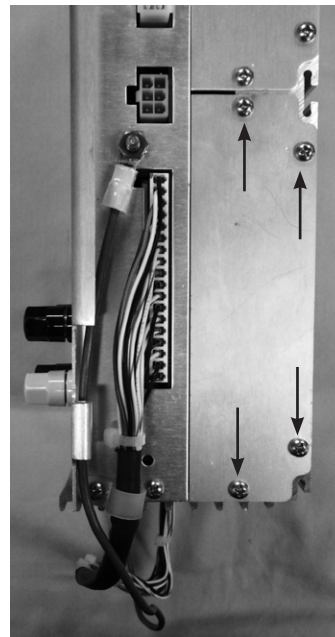

Figure 1. Accessory slot on main control.
2. There are three possible locations for the I/O module depending upon the control configuration and installed accessories. In each case, remove the accessory slot cover from the side of the control box by removing the four screws and retain the screws. See Figures 1, 2 and 3. In the case of Figure 3, it may be necessary to add the auxiliary accessories extrusion to the back of the control to accommodate the I/O module.